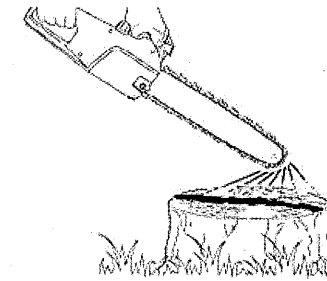

Fig. 15
1. Make sure the guide bar (8) and the saw chain (7) are in place when you check the oil delivery.
2. Start the engine; keep it running at medium power and check if the chain oil is delivered as shown in the figure (Fig. 15).